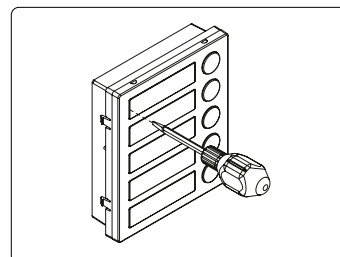

Fig. 10
- Insert the screwdriver (flat side) into the card-holder hole as shown in **Fig. 10**.